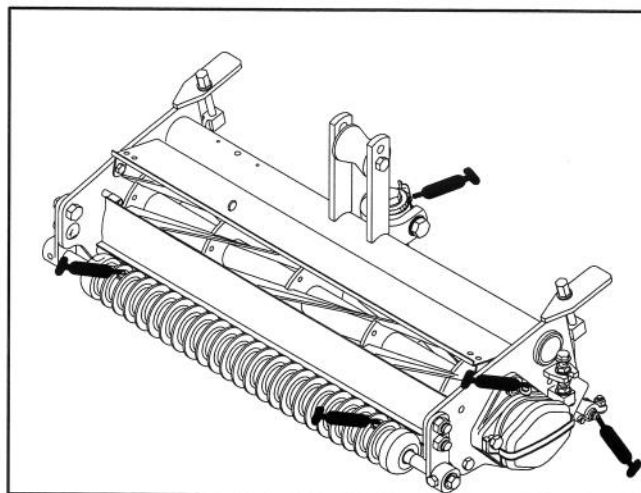

Figure 5
1. The grease fitting locations and quantities are: Bedknife pivot (1) Reel bearings (2) and front and rear rollers (2 ea.) (Fig. 5)